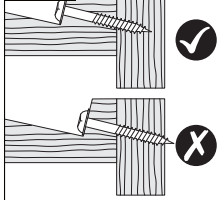
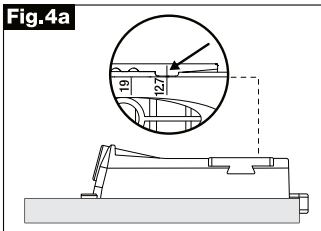

Fig.4
Fig.5
- Adjusting jig position (fig. 4 & fig. 5)